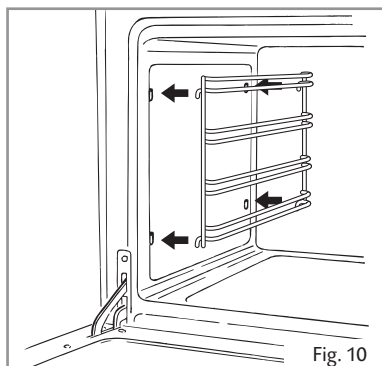

Fig. 10
- Fit the side runner frames into the holes on the side walls inside the oven (fig. 10).